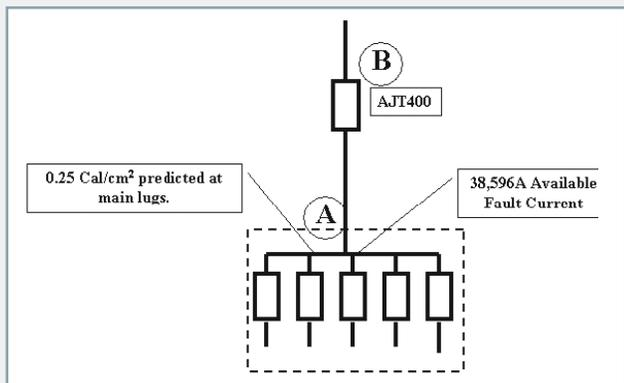

Figure 1: One-line diagram
1. Determine the available fault current at the line side terminals of the equipment being analyzed. This is 38,596 amps at point A in Figure 1.
2. Identify the type and ampere rating of the Amp-Trap 2000 fuse providing the overcurrent protection for the panel. In Figure 1, this is the AJT400 at Point B.